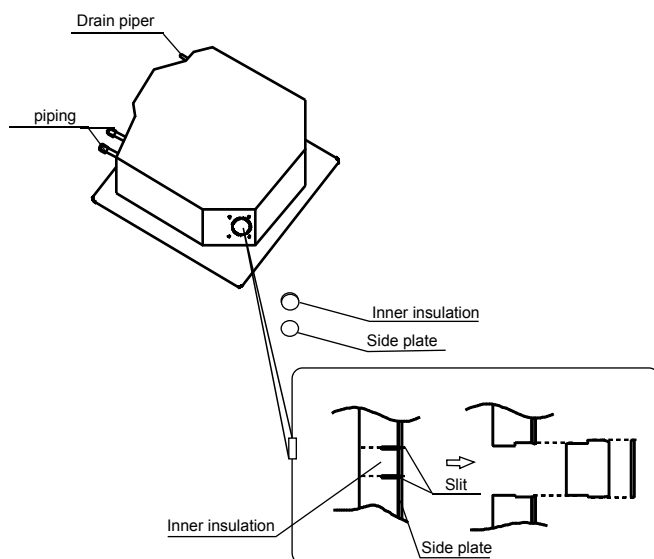

Fig.5-4
- Cut the inner insulation of the hole portion with a cutter. (Refer to Fig. 5-4)